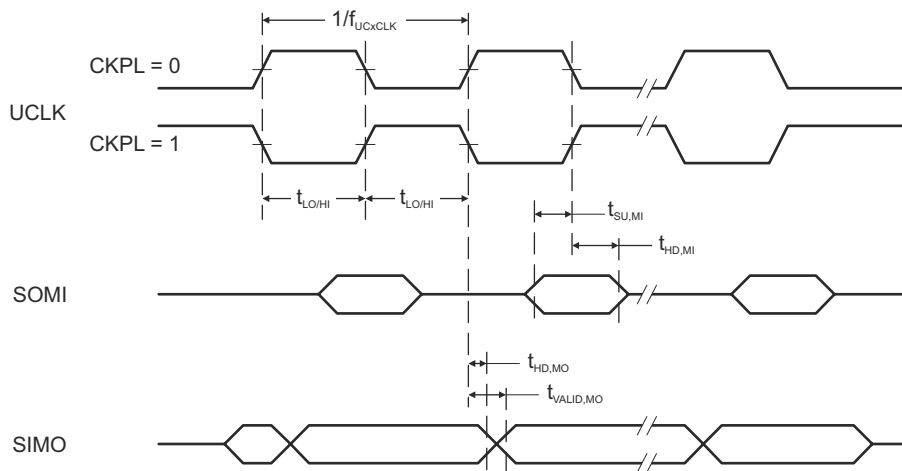
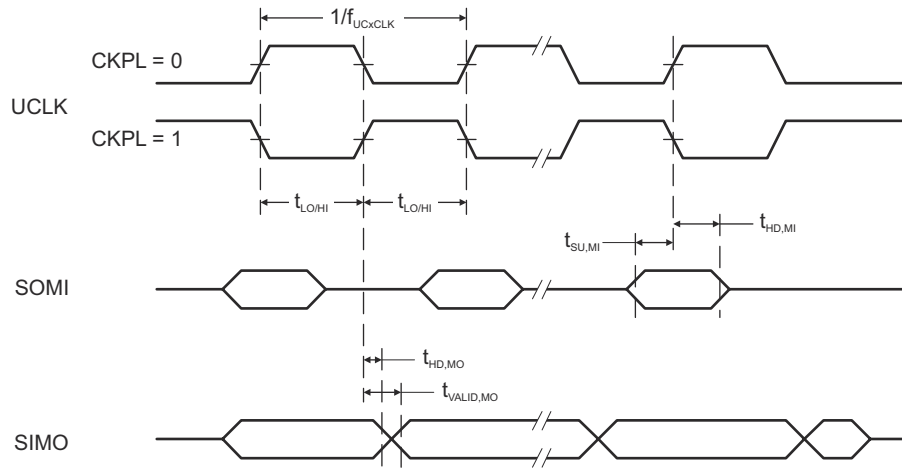

Figure 7-12. SPI Master Mode, CKPH = 0
Figure 7-13. SPI Master Mode, CKPH = 1
- (1) $f_{UCxCLK} = 1/2t_{LO/HI}$ with $t_{LO/HI} \geq \max(t_{VALID,MO}(USCI) + t_{SU,SI}(Slave), t_{SU,MI}(USCI) + t_{VALID,SO}(Slave))$. For the slave parameters $t_{SU,SI}(Slave)$ and $t_{VALID,SO}(Slave)$, see the SPI parameters of the attached slave.
- (2) Specifies the time to drive the next valid data to the SIMO output after the output changing UCLK clock edge. See the timing diagrams in Figure 7-12 and Figure 7-13.
- (3) Specifies how long data on the SIMO output is valid after the output changing UCLK clock edge. Negative values indicate that the data on the SIMO output can become invalid before the output changing clock edge observed on UCLK. See the timing diagrams in Figure 7-12 and Figure 7-13.